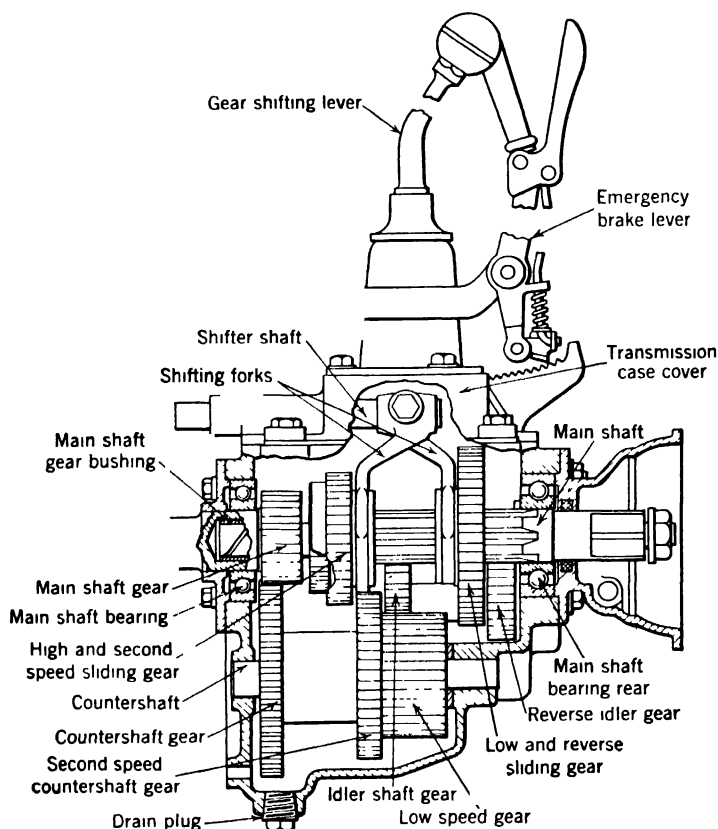
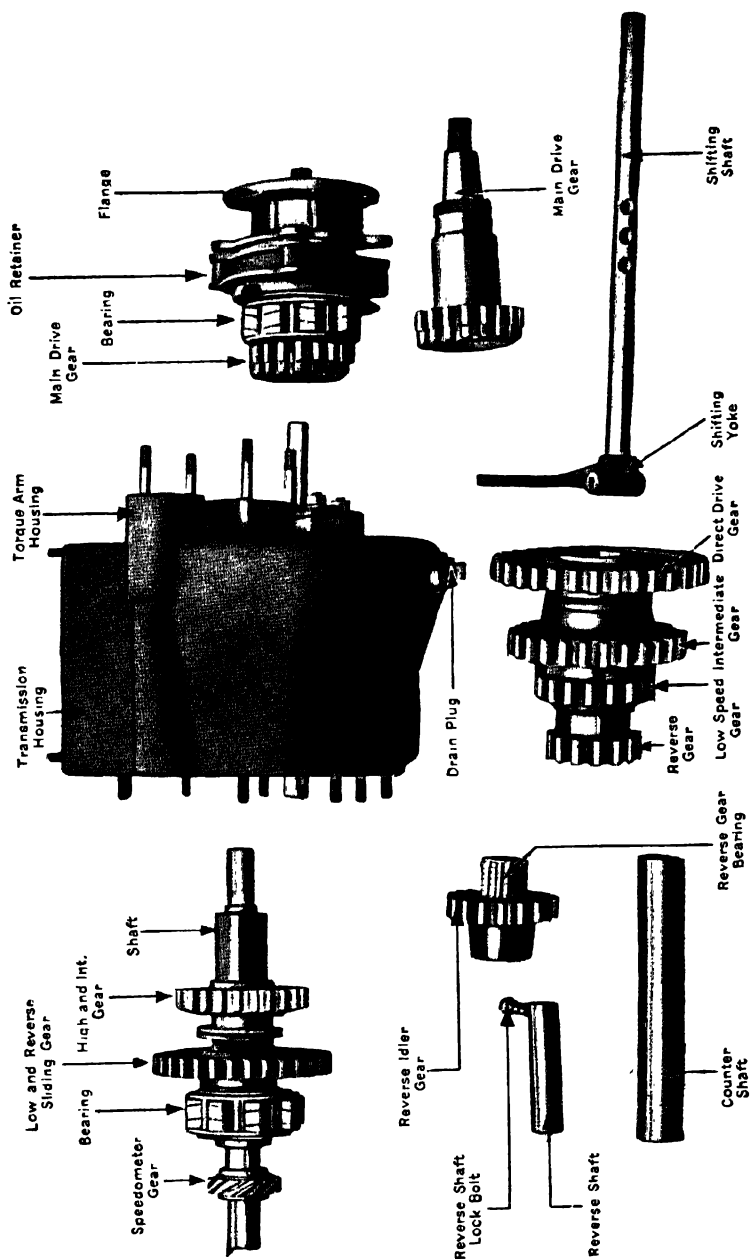

FIG. 34a. -Assembled Transmission.
FIG. 34b.—Sliding Gear Transmission Disassembled. (Marmon.)
ment of gears of different sizes produces the desired changes in speed and pulling power. The transmission shown in Fig. 34a has three speeds forward, the highest being direct with no reduction in the transmission, and one reverse speed. Reverse is obtained by introducing an extra gear or idler between the proper main and countershaft gears.
11. Are the shafts in Fig. 34a supported in plain bearings, ball bearings, or roller bearings. In Fig. 34b?
19. In Fig. 34a what type of bearing is used to support the spline shaft?